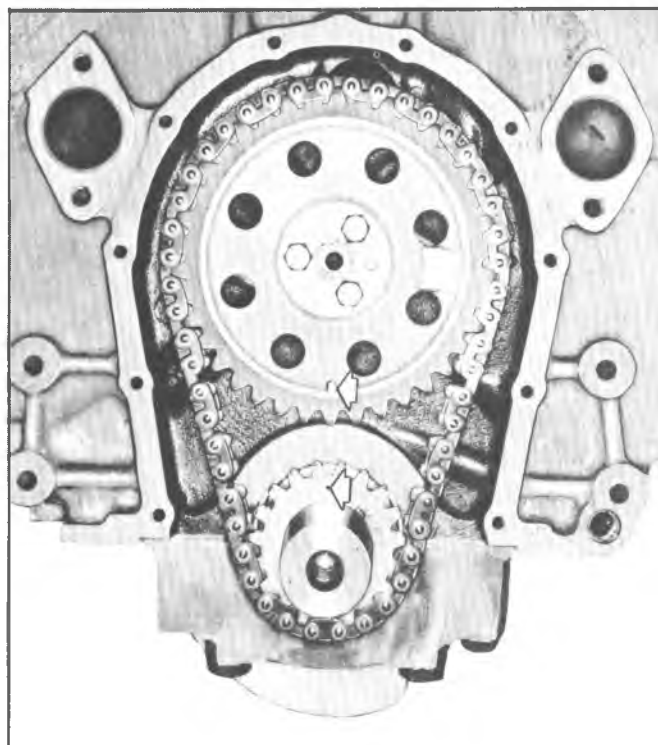

Fig. 6—Timing Sprocket Alignment Marks
- b. Install timing chain on camshaft sprocket then align marks on camshaft and crankshaft sprockets and connect chain to crankshaft sprocket. Align dowel on camshaft with dowel hole in camshaft sprocket and install sprocket on camshaft (fig. 6).